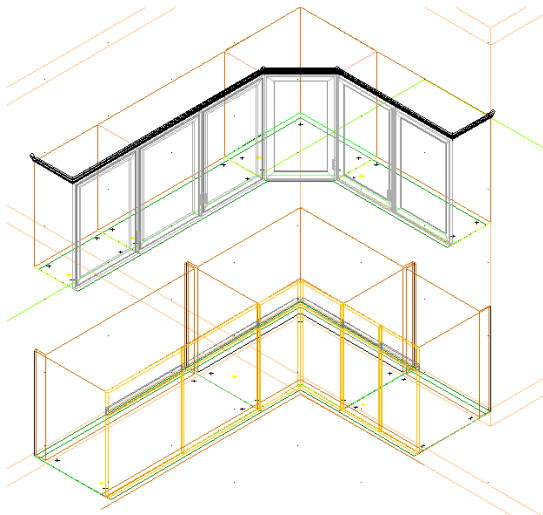

Fig. 236 – upper cornices created on the basis of a drawn path
- Select the path previously drawn on the cupboards and click **Draw**; which makes it possible to draw a cornice for any element with parameters and contour defined by the customer. During modifying each selected object is displayed in pink in the design window (Fig. 236),